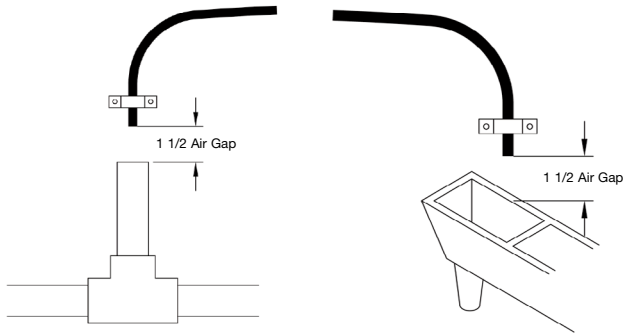

Figure 7: Also be sure drain line has an air gap.
2. If the drain line is a 5/8" outside diameter X 1/2" inside diameter flexible poly tube, slide the nut onto the poly tube, then place the poly tube insert into the end of the poly tube and tighten the nut on to the 3/4" drain line fitting. The nut is only designed for use with flexible poly tube. Use other nuts if attaching different materials. Run line to a drain. Making sure you have a 1 1/2" airgap. You may use a floor drain, standpipe or any open type drain (see Fig. 7 on page 13). Do not use petroleum-based, oils, or other unacceptable lubricants on O-rings. A silicon lubricant may be used on the black O-ring.